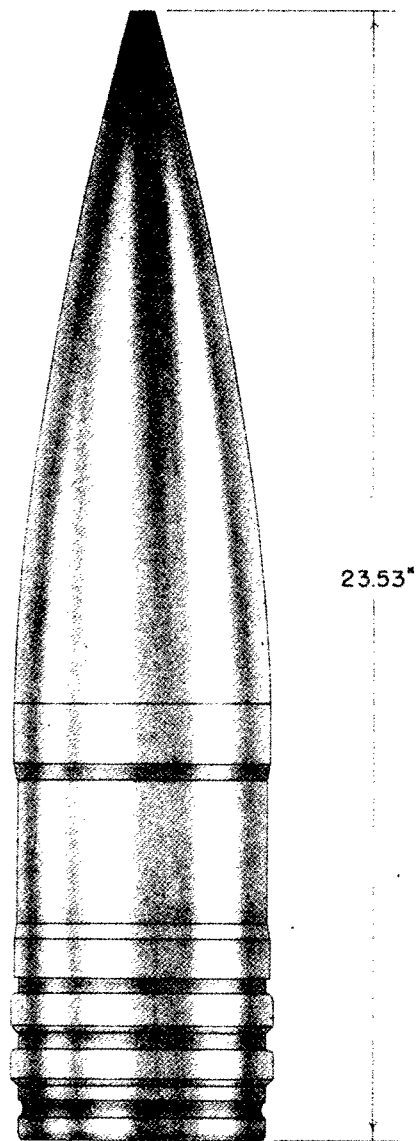

Figure 508—S. A. P. Projectile for Gun 39, 150-mm, 15-cm Hpzgr.
**GERMAN NOMENCLATURE:** 15-cm Hpzgr. (Halbpanzergranate). (See fig. 508.)